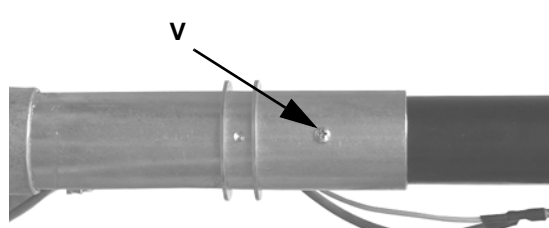

Fig. 17
- 7 Unscrew the **V**, rotate the head of 180 ° along its axis as shown in( Fig. 16), until the hole **F** is found. Fit the screw again(Fig. 16 - Fig. 17).